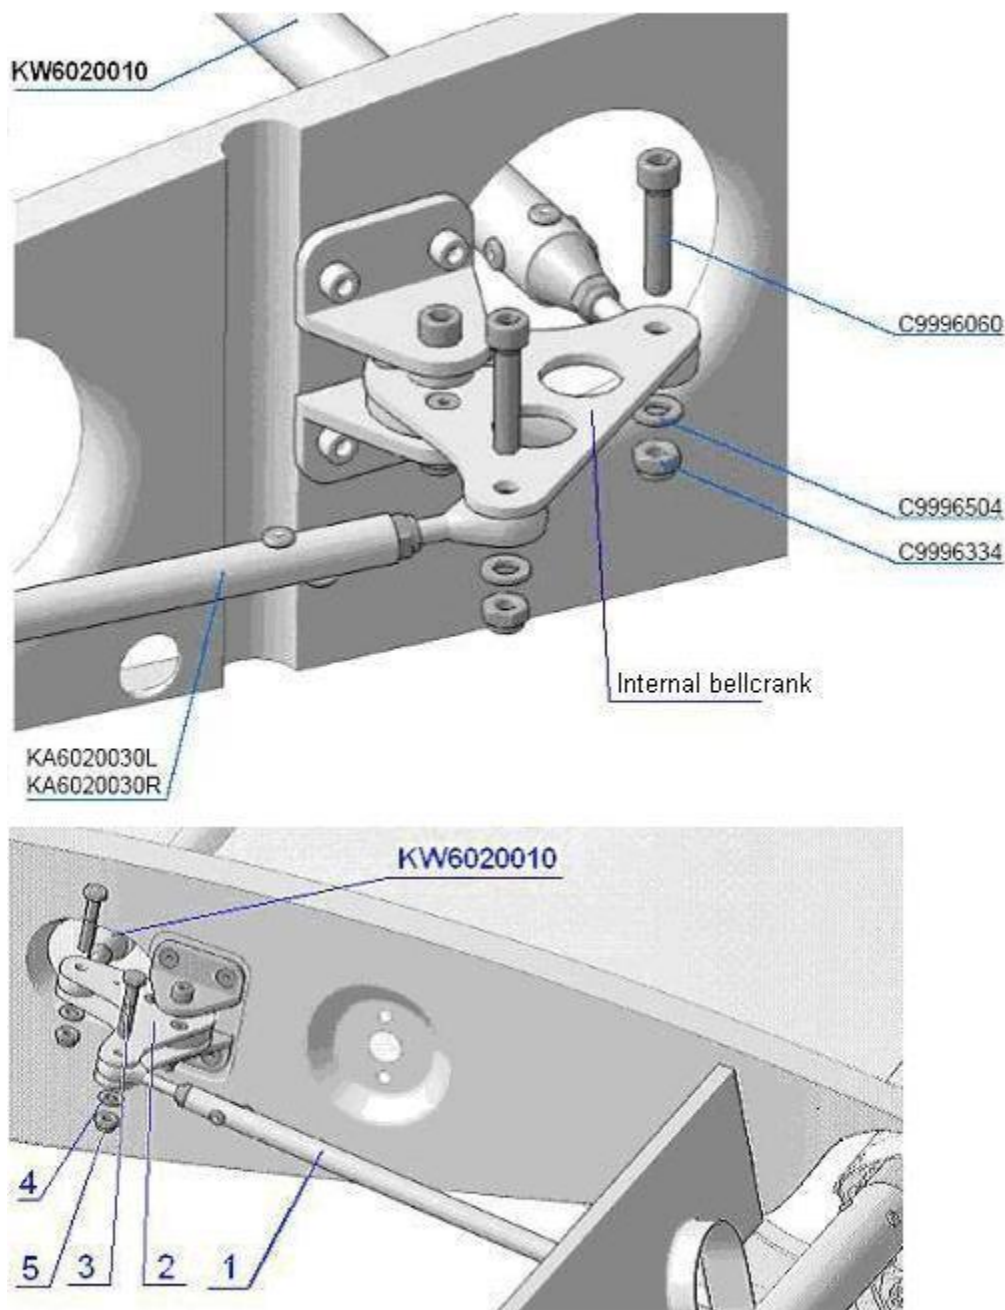

Fig. 7
Set the external bellcrank (2) KA6020040 so that the line between the rod (1) attachment hole and bellcrank axle of rotation is perpendicular to the root rib (Fig. 7). At the same time the internal bellcrank must be set so that the line between the rod KW6020010 mounting hole and bellcrank axle of rotation is parallel to the rib of the wing.
3. Match the holes in the rod tip (C9997006A, Rod end bearing, ext. thread GA6) with the hole in the bellcrank (2) KA6020040 (Fig. 7). Note that when the external bellcrank (2) KA6020040 is set so that the line between the rod (1) attachment hole and bellcrank axle of rotation is perpendicular to the root rib (Fig. 7), the internal bellcrank must be set so that the line between the rod KW6020010 mounting hole and bellcrank axle of rotation is parallel to the rib of the wing. Otherwise disconnect KA6020050R(L) and change its length per section 4.3.1.6 B.
4. Connect the rod in the fuselage root rib box (1) (KA6020050L for the left wing, KA6020050R for the right wing) with bellcrank (2) (KA6020040L for the left wing, KA6020040R for the right wing) by the bolt (3) KA6020021. Engage the nut (5) (C9996334, Self-locking nut DIN 985-M6, regular) onto the bolt (3), but do not tighten. Fig. 7.
5. Check "zero" position of the ailerons. If the ailerons are not aligned with the flaps, disconnect the rod (KA6020030R for the right wing, KA6020030L for the left wing) from the internal bellcrank KA2010130. (Fig. 7) and reduce length of the rod KA6020030R(L) in case the aileron trailing edge is lower than the flap trailing edge (refer to section 4.3.1.6 B). Otherwise increase length of the rod.
6. Connect the aileron rod KA6020030L (KA6020030R) with the internal bellcrank. Engage, but do not tighten the nut (5) (C9996334, Self-locking nut DIN 985-M6, regular) on the bolt (3) (C9996061, Bolt DIN 912 M6x40-8.8). Fig. 7.
7. Check aileron "zero" position. If the ailerons are not aligned with the flaps repeat items 5 through 6.